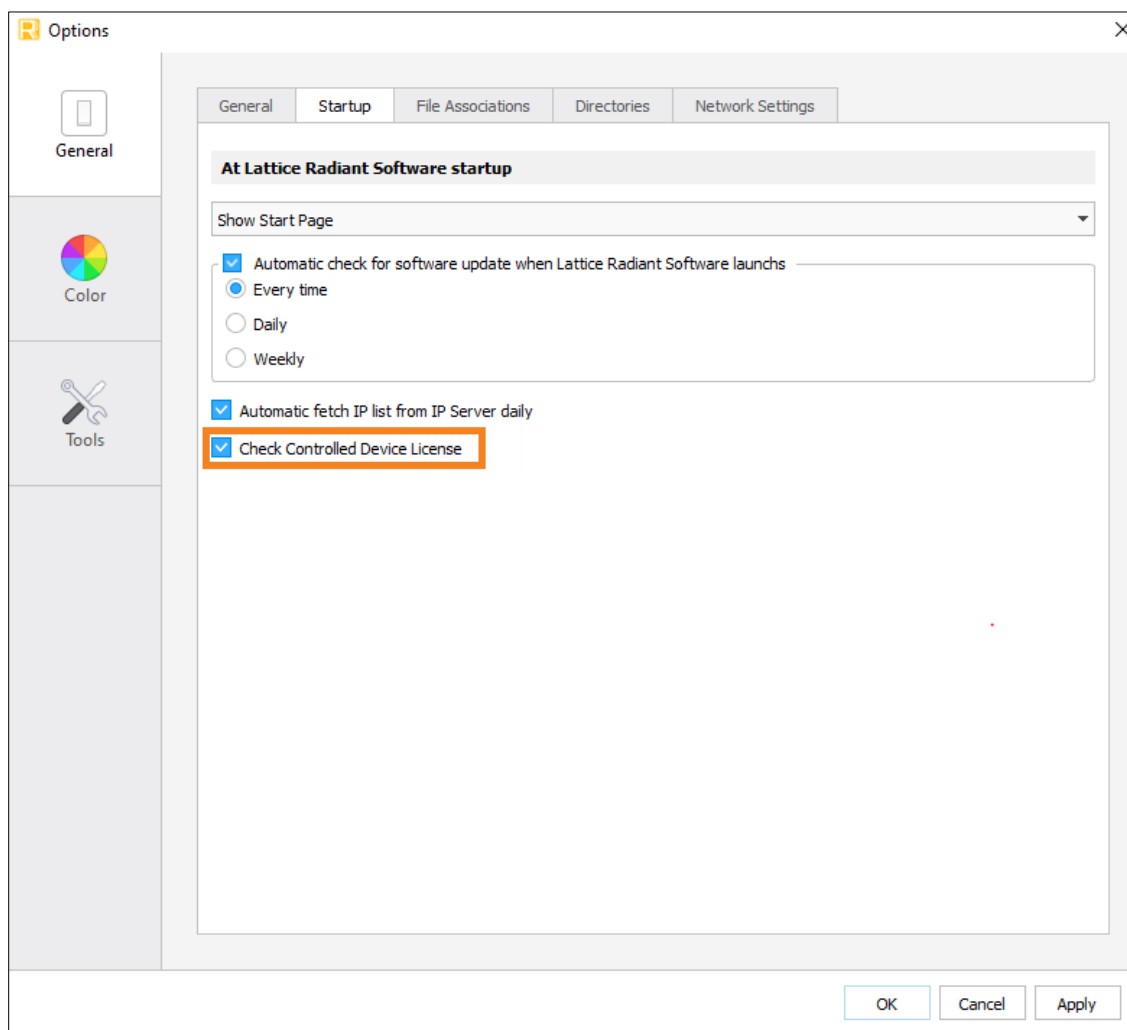

Figure 3.2. Check Controlled Device License
2. Enable the **Check Controlled Device License** item (Figure 3.2).